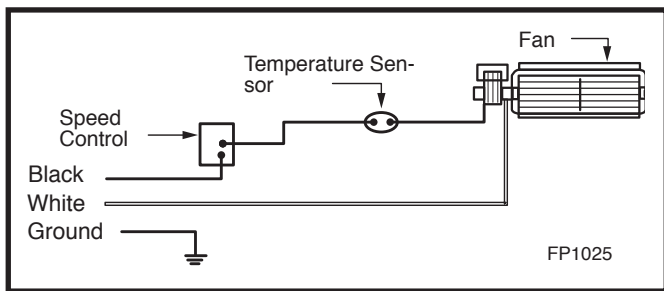

Fig. 55 FK24 fan wiring.
-  Should this fan require servicing or repair the power supply must be disconnected. For rewiring of any replacement parts refer to Figure 55.